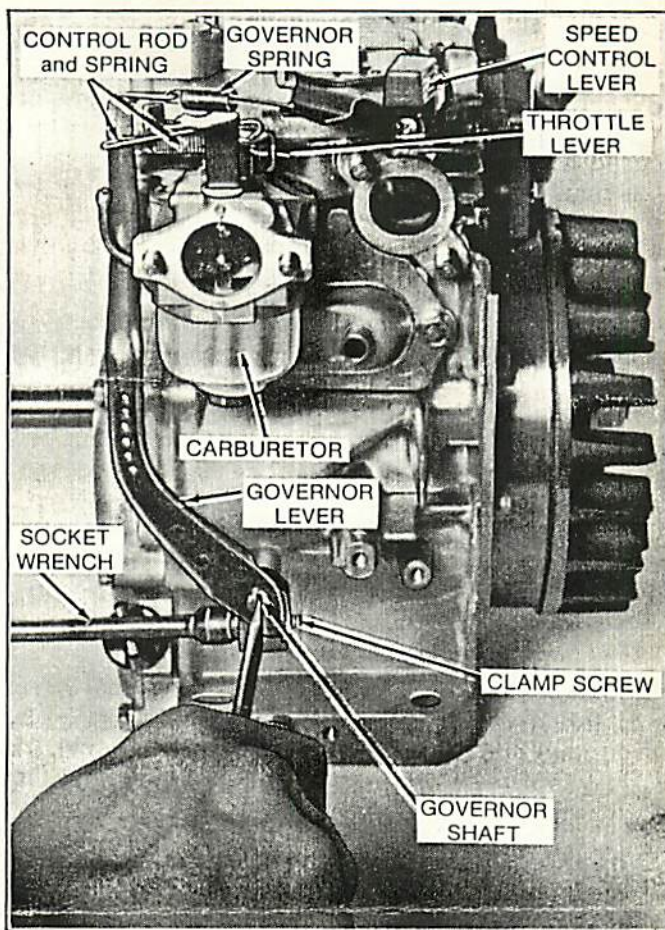
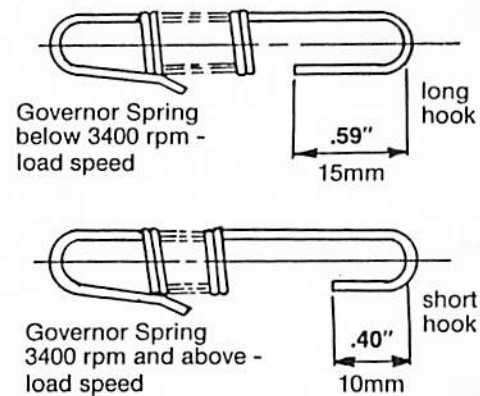
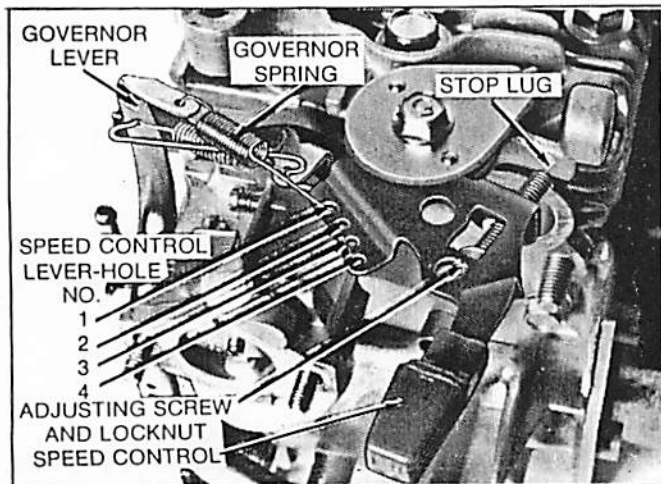

Fig. 8
Fig. 9A
Fig. 9
GOVERNOR ADJUSTMENT, Fig. 8, Fig. 9
3. Mount **control lever assembly** to cylinder head but **do not** tighten flange screw. Connect **governor spring** from control lever to governor lever. See 'Governor Chart', Fig. 9A, for appropriate holes.
SPEED REGULATION, Fig. 9, Fig. 9A
NOTE: Two different governor springs are used, depending on the operating speed range of the engine. With reference to **Fig. 9A**, on engines operating at a **load speed below 3400 r.p.m.** the governor spring used is identified by a **long hook** at speed control end. On engines operating at **load speed of 3400 r.p.m. and above**, the governor spring used has less coils and is identified by a **short hook** on speed control end.